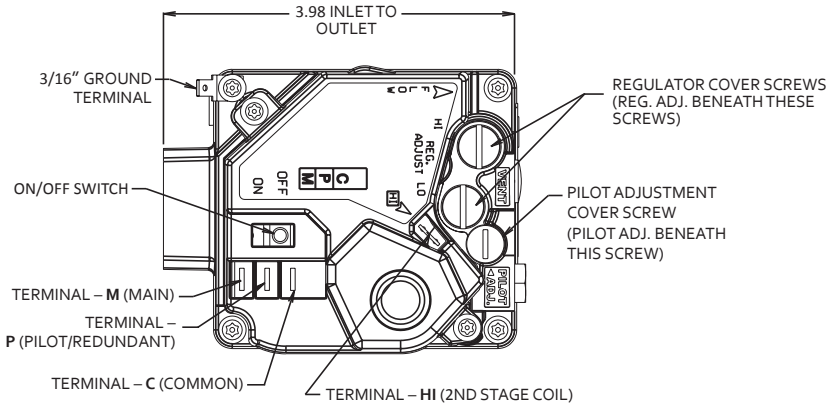

Figure 4. Features and Terminal Identification
REFER TO AND FOLLOW THE APPLIANCE MANUFACTURER'S WIRING DIAGRAM. REFER TO FIG. 4 AND 5 FOR TERMINAL IDENTIFICATION.
- For non-piloted gas applications HSI and DSI, connect common wire to (C) terminal and hot wire to external jumper (MP) terminal (see fig. 4 and 5).